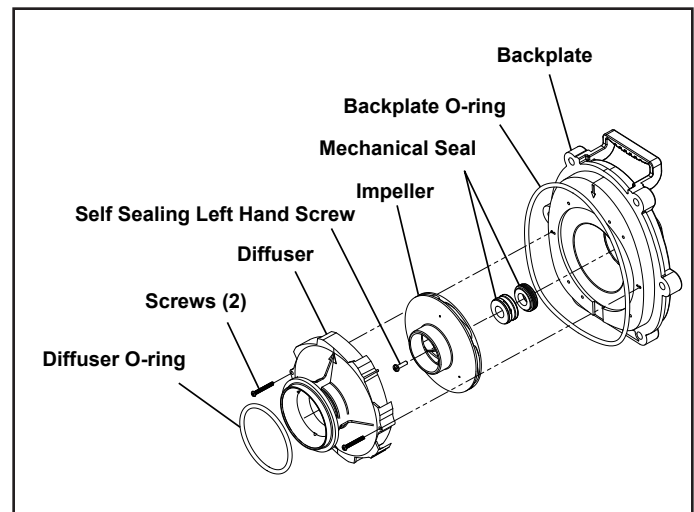

Figure 19. Backplate, Impeller, Diffuser, Mechanical Seal Exploded View
**NOTE** Refer to Figure 19 for an illustration of the location of the mechanical seal and impeller.